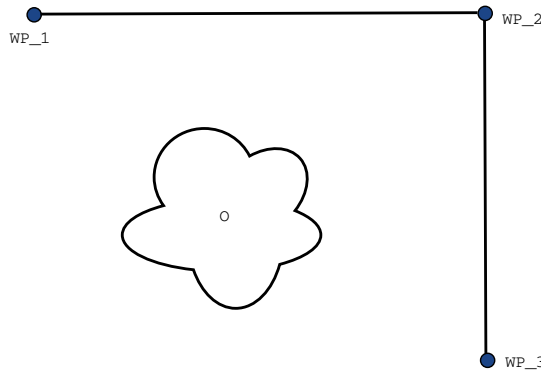

Figure 14.2: WP\_1: initial position, WP\_2: via point, WP\_3: pick up position, O: obstacle.
**Example** Consider a pick and place application as an example (see figure 14.2), where the robot is currently at Waypoint 1 (WP\_1), and it needs to pick up an object at Waypoint 3 (WP\_3). To avoid collisions with the object and other obstacles (O), the robot must approach